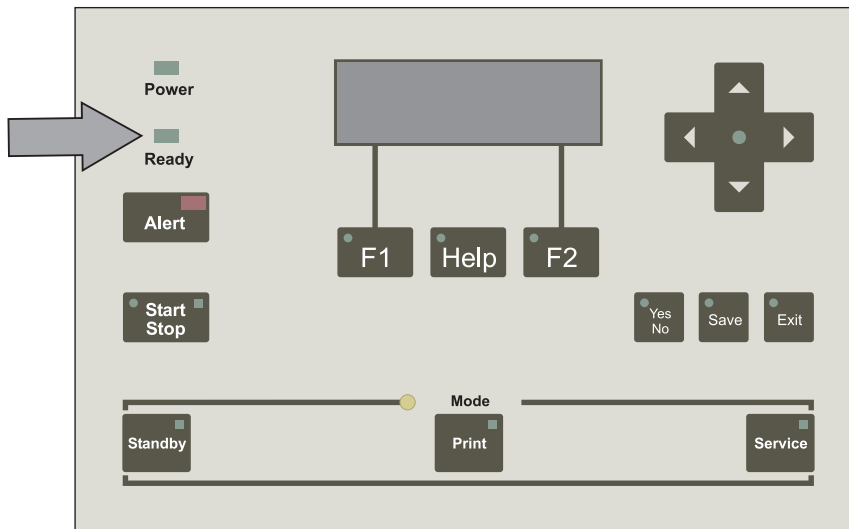

Figure 4-1. Location of Ready Light
- 1 Is the Ready light on the keyboard lit? (Refer to Figure 4-1.)